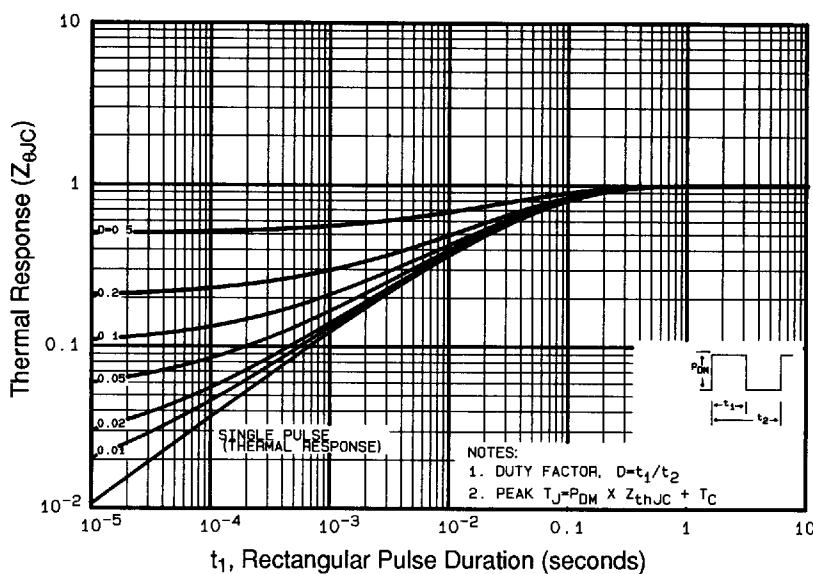

Fig 11. Maximum Effective Transient Thermal Impedance, Junction-to-Case
① Repetitive rating; pulse width limited by max. junction temperature (See Figure 11)
③ $I_{\text{SD}} \leq 14\text{A}$, $di/dt \leq 150\text{A}/\mu\text{s}$, $V_{\text{DD}} \leq V_{(\text{BR})\text{DSS}}$, $T_J \leq 150^\circ\text{C}$
② $V_{\text{DD}}=50\text{V}$, starting $T_J=25^\circ\text{C}$, $L=4.50\text{mH}$